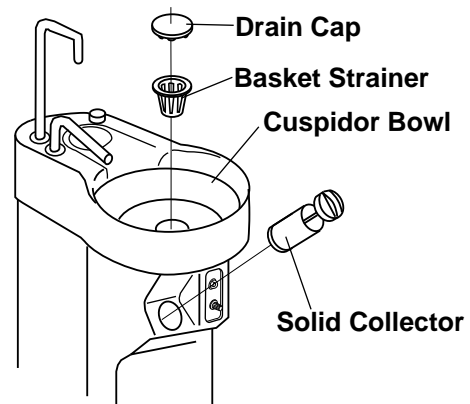

Fig.5-1 Basket Strainer and Solid Collector
(2) Basket Strainer (Fig.5-1)
(3) Solid Collector (Fig.5-1)